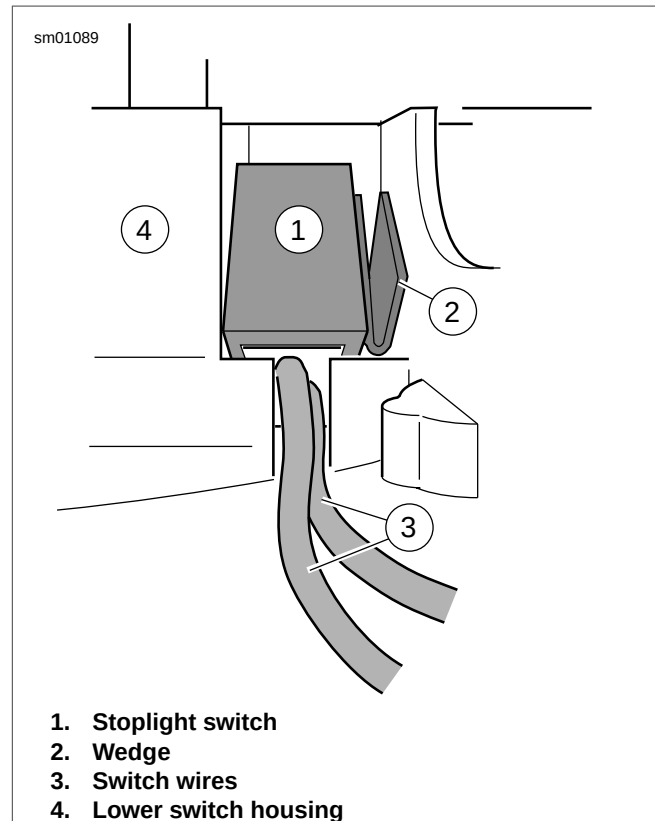

Figure 7-93. Install Stoplight Switch
7. See Figure 7-93. Push down on switch (1) so that it bottoms against housing and wires (3) run in groove at base of cavity. With the concave side facing outward, insert wedge (2) between switch and outboard side of switch housing.